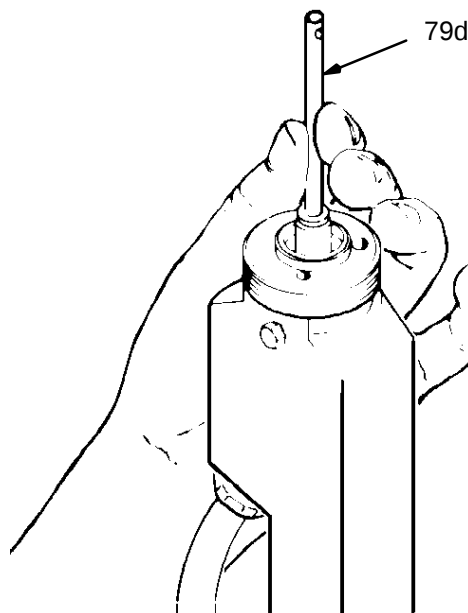
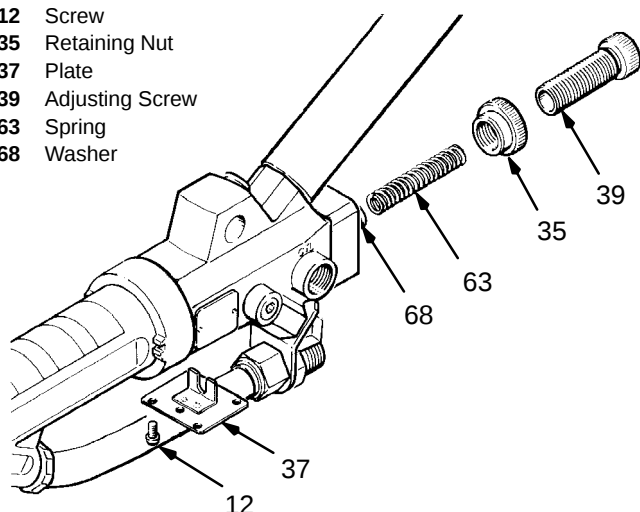
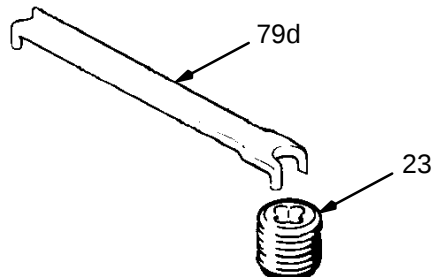

Fig 5
Fig 6
Fig 7
2. Remove the electrode (55) with the wrench (79d) supplied. See Fig 5.
3. Note the position of the adjusting screw (39). Then remove the adjusting screw, retaining nut (35), spring (63), and washer (68). See Fig 6.
4. Remove the four screws (12) and the plate (37) .
5. Loosen the needle packing nut (23) half a turn, using the wrench (79c) supplied. See Fig 7.
6. With a long nose pliers, pull out the needle assembly (61) from the back of the actuator. See the **Parts Drawing**, page 20.
2. Install the adjusting screw (39), retaining nut (35), spring (63) and washer (68). See Fig 6. Set the adjusting screw to its original position and tighten the retaining nut.
3. Install the electrode (55) with the wrench (79d). See Fig 5.
4. Install the fluid nozzle (30) and air cap (32) as described in **Clean the Air Cap and Fluid Nozzle**.
6. Adjust the packing nut (23) with the wrench (79c) just tight enough to prevent leakage. See Fig 7.
7. Install the plate (37) with the four screws (12). See Fig 6.
8. If the fluid needle packing (23) or resistor tube (48) must be replaced, the barrel (60) must be removed from the gun body (56).
2. Remove the packing nut (23) from the rear of the barrel, using the wrench (79c) supplied. See Fig 7.
1. Insert the needle shaft assembly into the barrel and very lightly tighten the packing nut (23) with the wrench (79c). See Fig 7 and 10. Then pull the needle back out of the barrel.